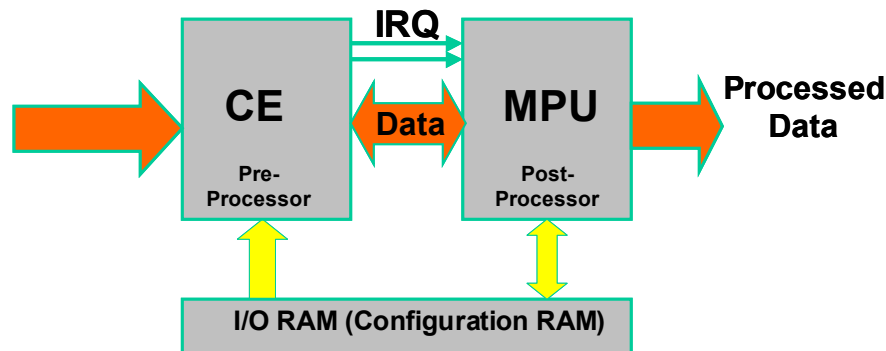

Figure 13: MPU/CE Data Flow
The data flow between CE and MPU is shown in Figure 13. In a typical application, the 32-bit compute engine (CE) sequentially processes the samples from the inputs on pins I0 through I5, performing calculations to measure the currents for circuit breaker operation. These measurements are then accessed by the MPU, processed further and output using the peripheral devices available to the MPU.